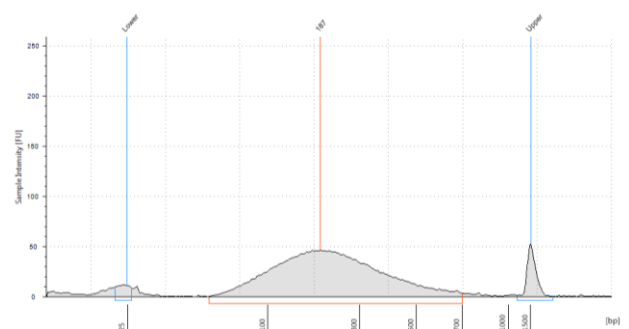

Figure 3: Analysis of sheared DNA using an Agilent High Sensitivity D1K ScreenTape assay. Size distribution with a peak between 150 to 200 bp (+/- 10%).
14. Assess the quality and quantity with Agilent 2200 TapeStation and check that the electropherogram shows a distribution with a peak height between 150 and 200 base pairs (Figure 3). Set up the machine and prepare the chip/tape, samples and ladder following the manufacturer's instructions.